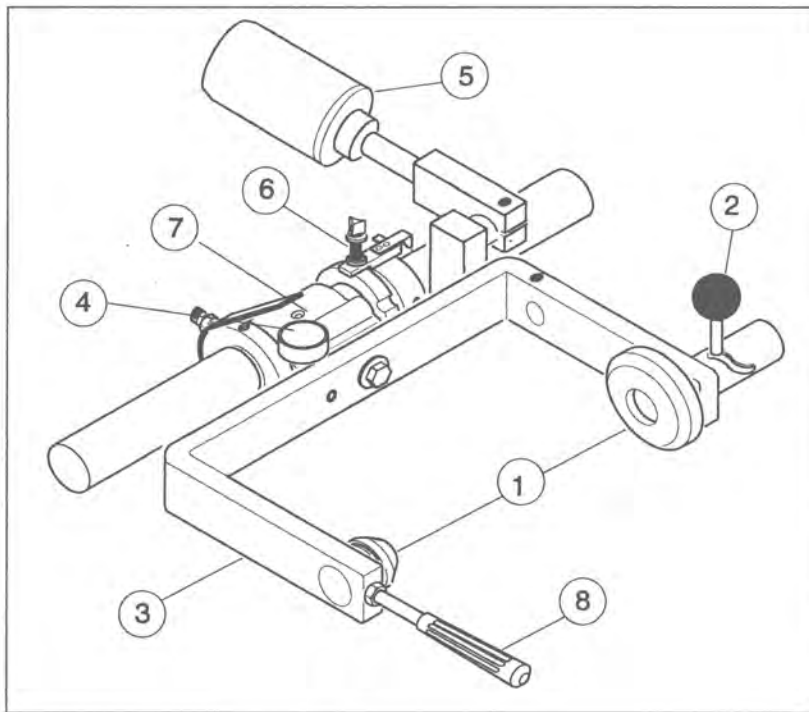

Fig. 2-5a
2.1.1 **CONE HOLDER WITH CENTERS** unit - Fig. 2-5a